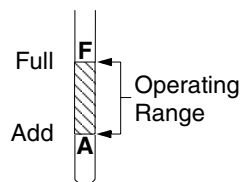
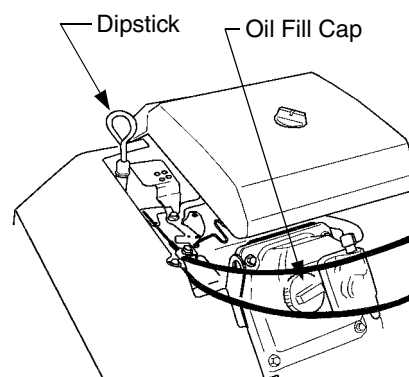
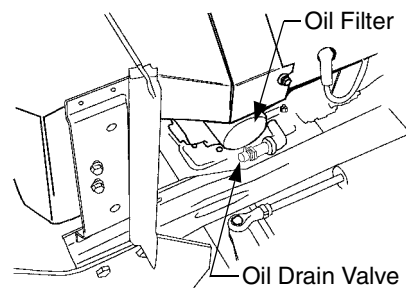

Figure 24
Figure 25
Figure 27
Before checking the oil level, clean the area around the oil level dipstick to prevent debris from entering the crankcase. See Figure 25. Always keep the oil level between the "FULL" and the "ADD" marks on the dipstick. See Figure 24.
- Clean the area around the oil filler cap to prevent debris from entering the crankcase. See Figure 25.
- Remove the oil filler cap from the left valve cover and SLOWLY pour in oil. Fill the crankcase until the oil level reaches the "FULL" mark on the dipstick. See Figure 24.
- Clean around the base of the oil filter, the oil filler cap, and the dipstick tube to prevent debris from entering the crankcase. See Figure 25 and Figure 27.